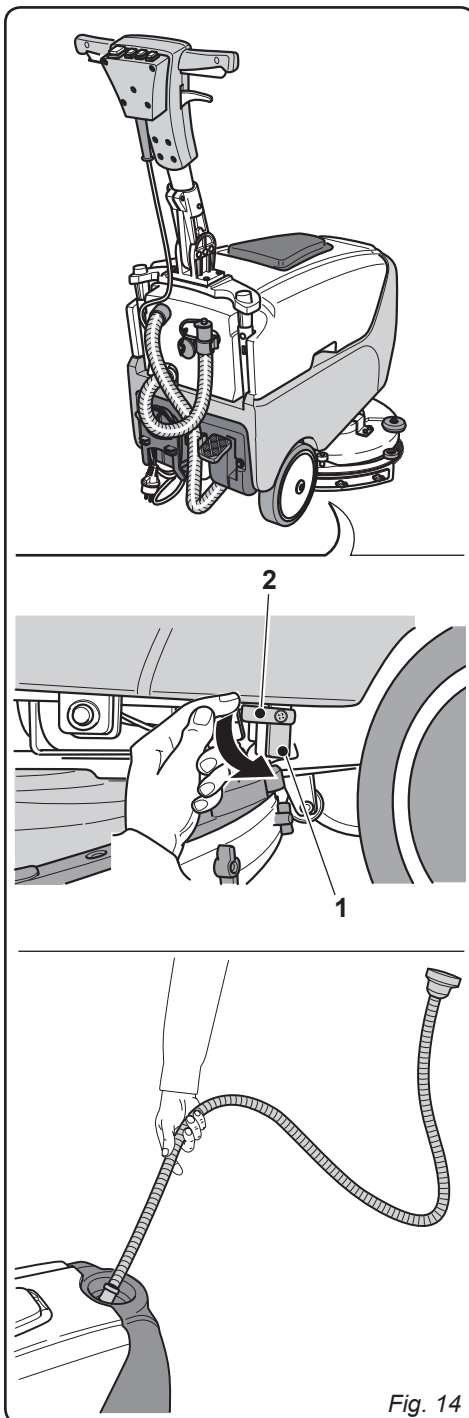

Fig. 14
11.1.a - Emptying and cleaning the clean water tank (Fig. 14)